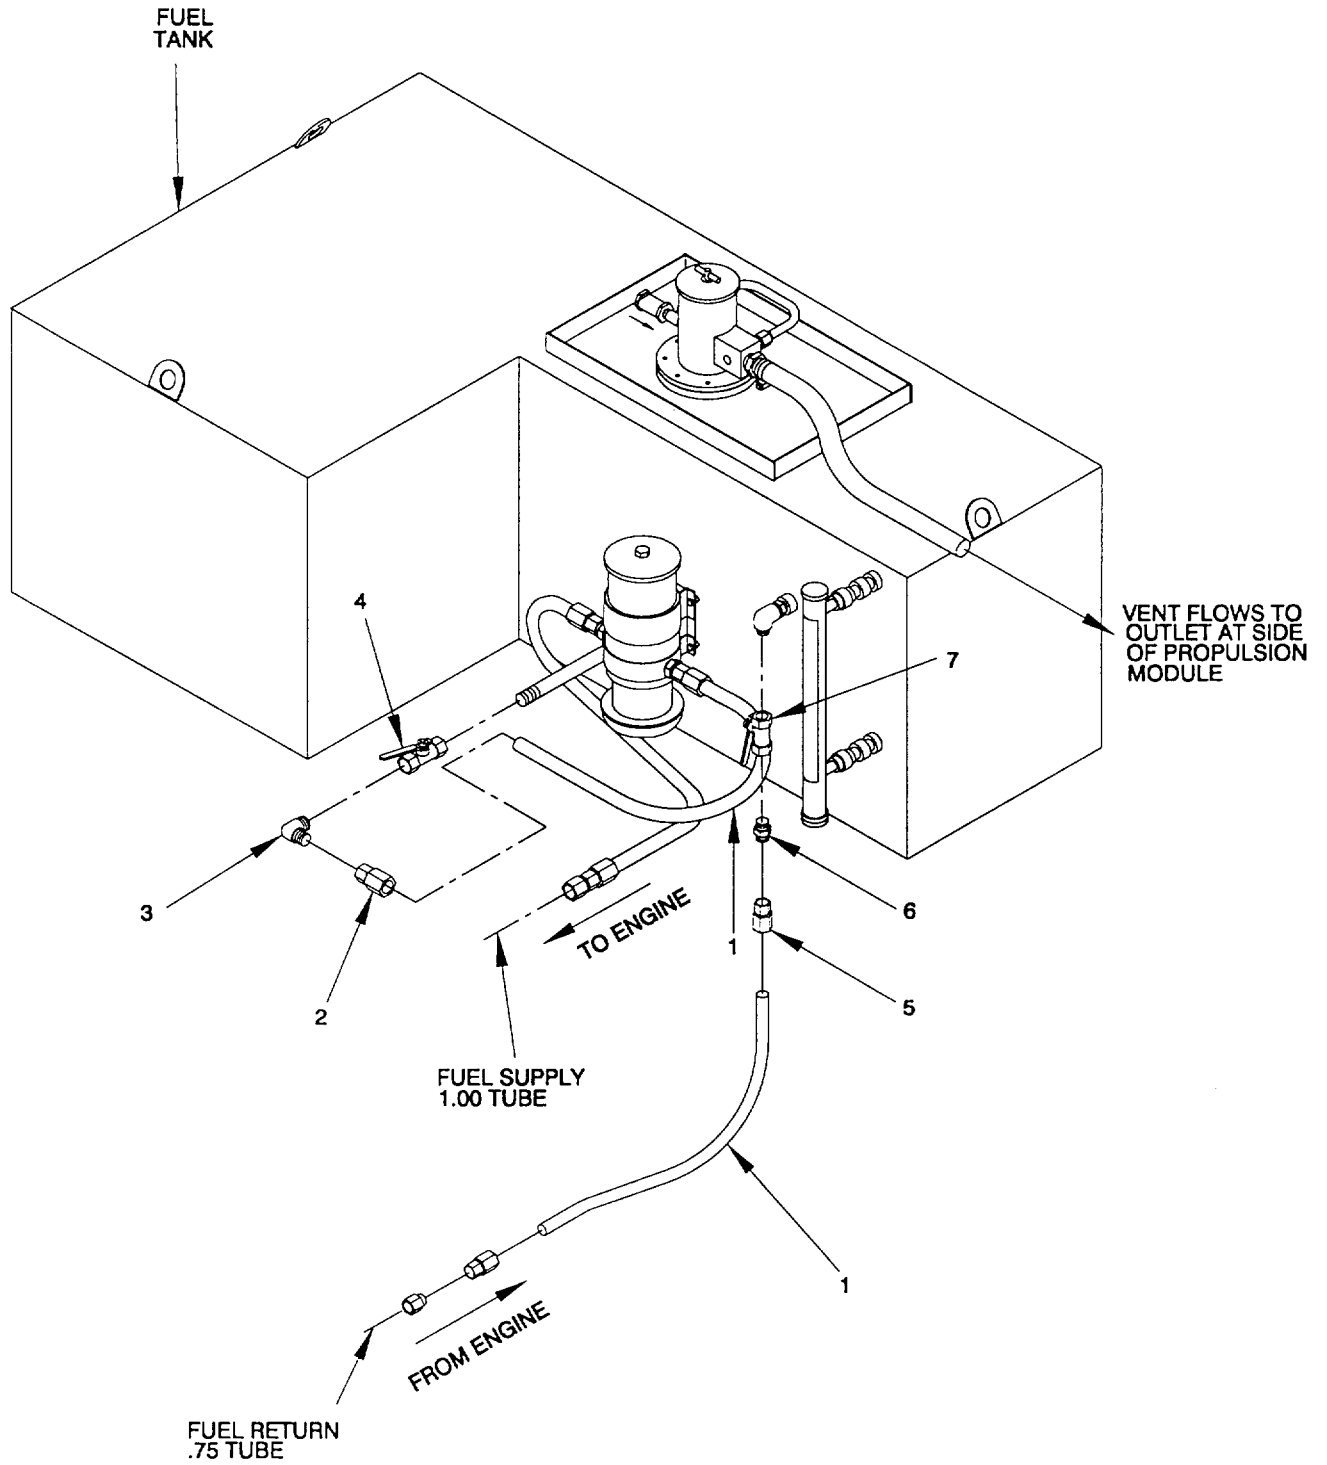

Figure 2-45. Ball Valve, Fuel System, Remove/Install.
a. Remove. (figure 2-45)
b. Install. (figure 2-45)
- (1) Apply sealant to pipe threads on 90° elbow (3), ball valves (4 and 7) and straight adapter (6).
- (2) Install new fuel return line ball valve (7), straight adapter (6), hose fitting (5), fuel supply line ball valve (4), 90° elbow (3), hose fitting (2) and two hoses (1).
- (3) Fill fuel tank.
- (4) Check for leaks.